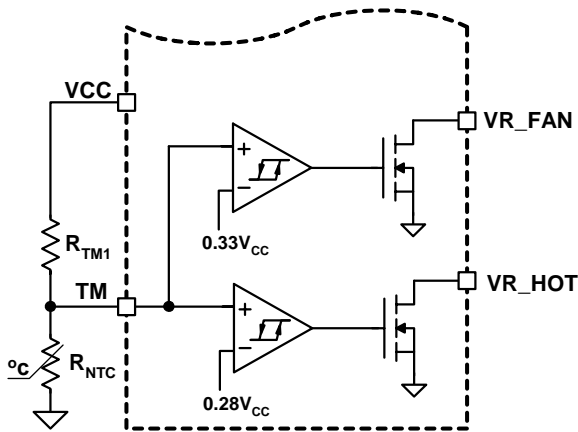
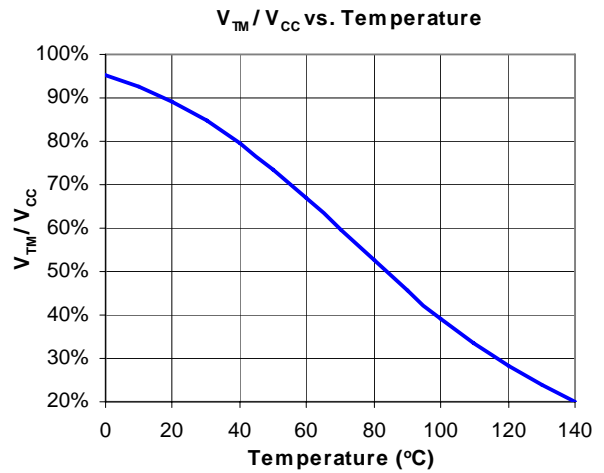

FIGURE 11. BLOCK DIAGRAM OF THERMAL MONITORING FUNCTION
FIGURE 12. THE RATIO OF TM VOLTAGE TO NTC TEMPERATURE WITH RECOMMENDED PARTS
The diagram of thermal monitoring function block is shown in Figure 11. One NTC resistor should be placed close to the power stage of the voltage regulator to sense the operational temperature, and one pull-up resistor is needed to form the voltage divider for the TM pin. As the temperature of the power stage increases, the resistance of the NTC will reduce, resulting in the reduced voltage at the TM pin. Figure 12 shows the TM voltage over the temperature for a typical design with a recommended 6.8kΩ NTC (P/N: NTHS0805N02N6801 from Vishay) and 1kΩ resistor RTM1. We recommend using those resistors for the accurate temperature compensation.
Based on  $V_{CC}$  voltage, ISL6326B converts the TM pin voltage to a 6-bit TM digital signal for temperature compensation. With the non-linear A/D converter of ISL6326B, the TM digital signal is linearly proportional to the NTC temperature. For accurate temperature compensation, the ratio of the TM voltage to the NTC temperature of the practical design should be similar to that in Figure 12.
1. Properly choose the voltage divider for the TM pin to match the TM voltage vs temperature curve with the recommended curve in Figure 12.